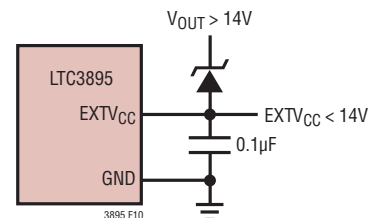

Figure 10. Using a Zener Diode Between  $V_{OUT}$  and  $EXTV_{CC}$
4.  $EXTV_{CC}$  connected to the regulator output through an external zener diode. If the output voltage is greater than 14V, a zener diode can be used to drop the necessary voltage between  $V_{OUT}$  and  $EXTV_{CC}$  such that  $EXTV_{CC}$  remains below 14V (Figure 10). In this configuration, a bypass capacitor on  $EXTV_{CC}$  of at least 0.1 $\mu\text{F}$  is recommended. An optional resistor between  $EXTV_{CC}$  and  $\text{GND}$  can be inserted to ensure adequate bias current through the zener diode.